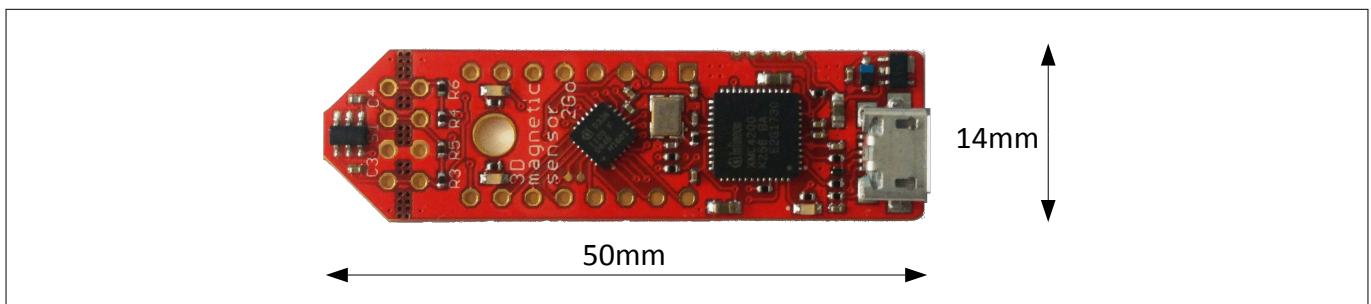

Figure 1 **3D Magnetic Sensor 2 Go EvalBoard**
- The 3D evaluation board (EvalBoard) as shown in **Figure 1**, a ready-to-use printed circuit board (PCB) with the 3D Hall sensor. The EvalBoard is based on the XMC2Go-Kit. More technical documents and detailed description can be found at <http://www.infineon.com/xmc2go>